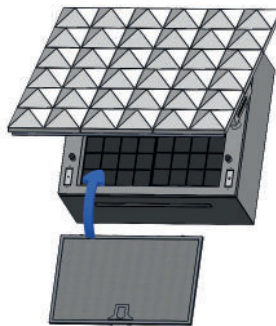

Fig.13
- › An activated charcoal filter is required when recirculating. This is to be installed behind the grease filter and slots into place (Fig.13). Charcoal Filter CAP47CF can be purchased directly from [www.caple.co.uk](http://www.caple.co.uk) or by calling our sales office on 0117 938 1900. This should be replaced according to the effective use of the hood at least once every 6 months.